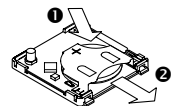

Fig. 5/Abb. 5
2. Extract the exhausted battery by first pushing it through the battery holder cutout and then pulling it out as shown in Fig. 5.